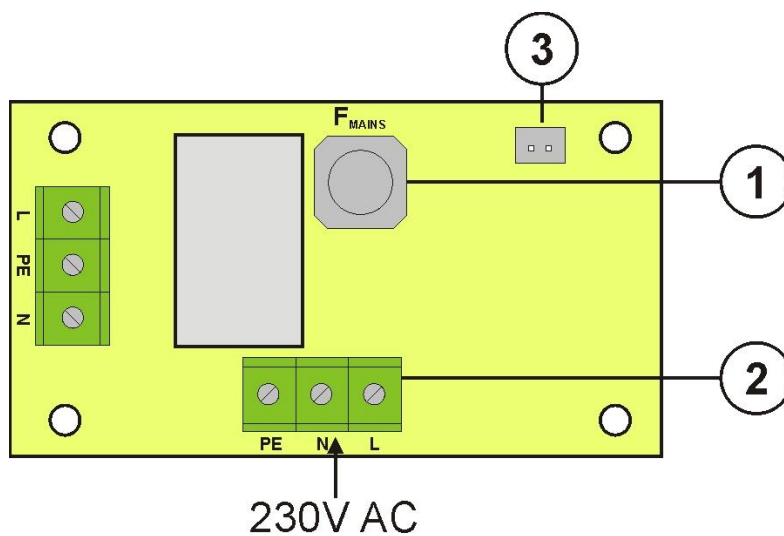

Fig. 3. The view of the EMC filter.
**Table 2. Components of the PCB of the EMC filter (Fig. 3).**
[7]	EMC filter module (see Table 2, Fig. 3)